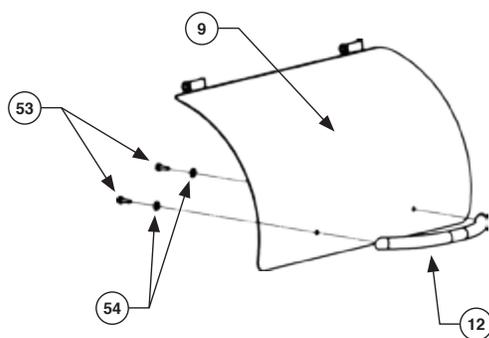
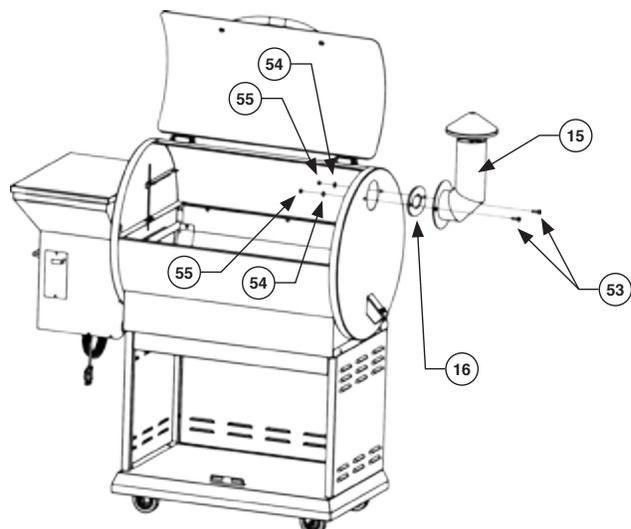

FIG 7
FIG 8
Penetrate ¼-20*½ Hexagon Bolt (53) through (Ø18*Ø6.5*2.0mm) Washer (54) and Lid (9) directly to the Handle (12) and tighten up. Do not overtighten the bolt. As shown in FIG 7.
1. Align the holes in the Smoke Stack (15) with the holes in the Smoke Stack Gasket (16), which fits between right end of the Grill and the Smoke Stack Gasket (16). Insert the ¼-20*½ Hexagon Bolts through the holes in the Smoke Stack (15) and the Smoke Stack Gasket (16).
2. Place a (Ø18*Ø6.5*2.0mm) Washer (54) on each bolt and secure with ¼-20 Hexagon Nut (55). As shown in FIG 8.